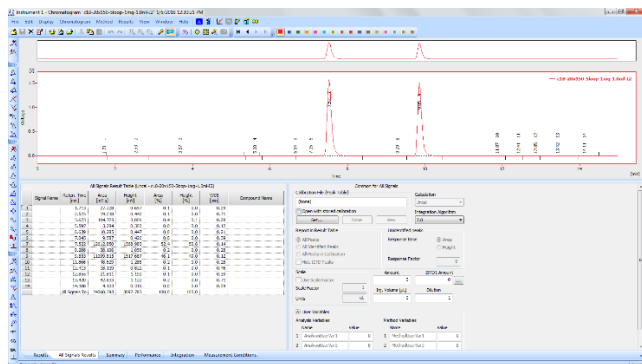

Figure 11:
- Once the chromatogram loads, the software should process and integrate your data, giving a data table in the lower left quadrant as shown in Figure 11.